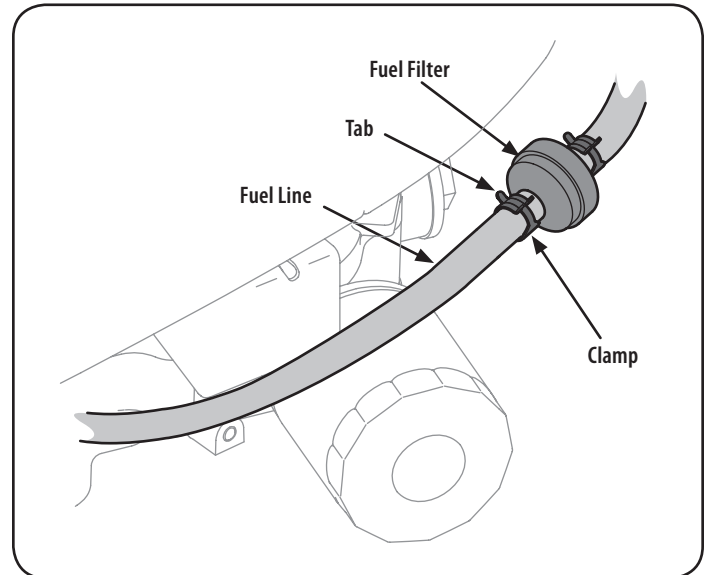

Figure 14
- Use pliers to squeeze the tabs on the other clamp (the out-line side of the fuel filter), and slide the clamp away from the fuel filter. Twist and pull the fuel line off of the fuel filter. See "Figure 14".